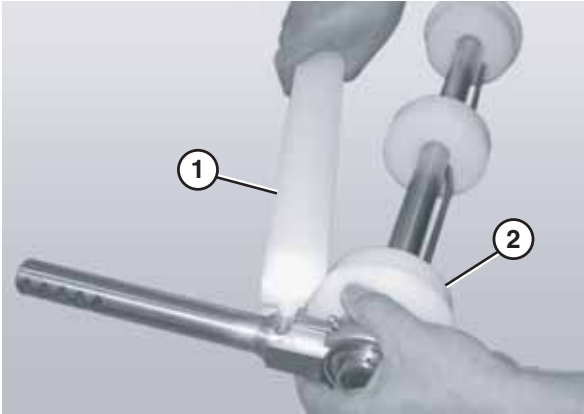

Figure 89
3. Attach the flanged pucks (**Figure 89, item 2**) and bearing shaft assemblies to the idler shaft.
4. Attach the guard bar (**Figure 89, item 1**).